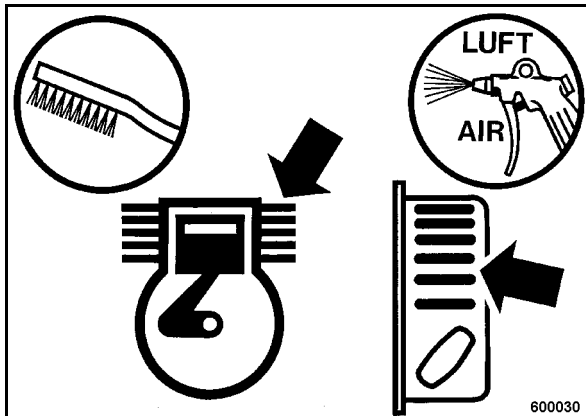

Fig. 52
- Loosen dried on dirt with a suitable brush (Fig. 52) from all cooling fins and cooling air intake openings and blow it off with compressed air.